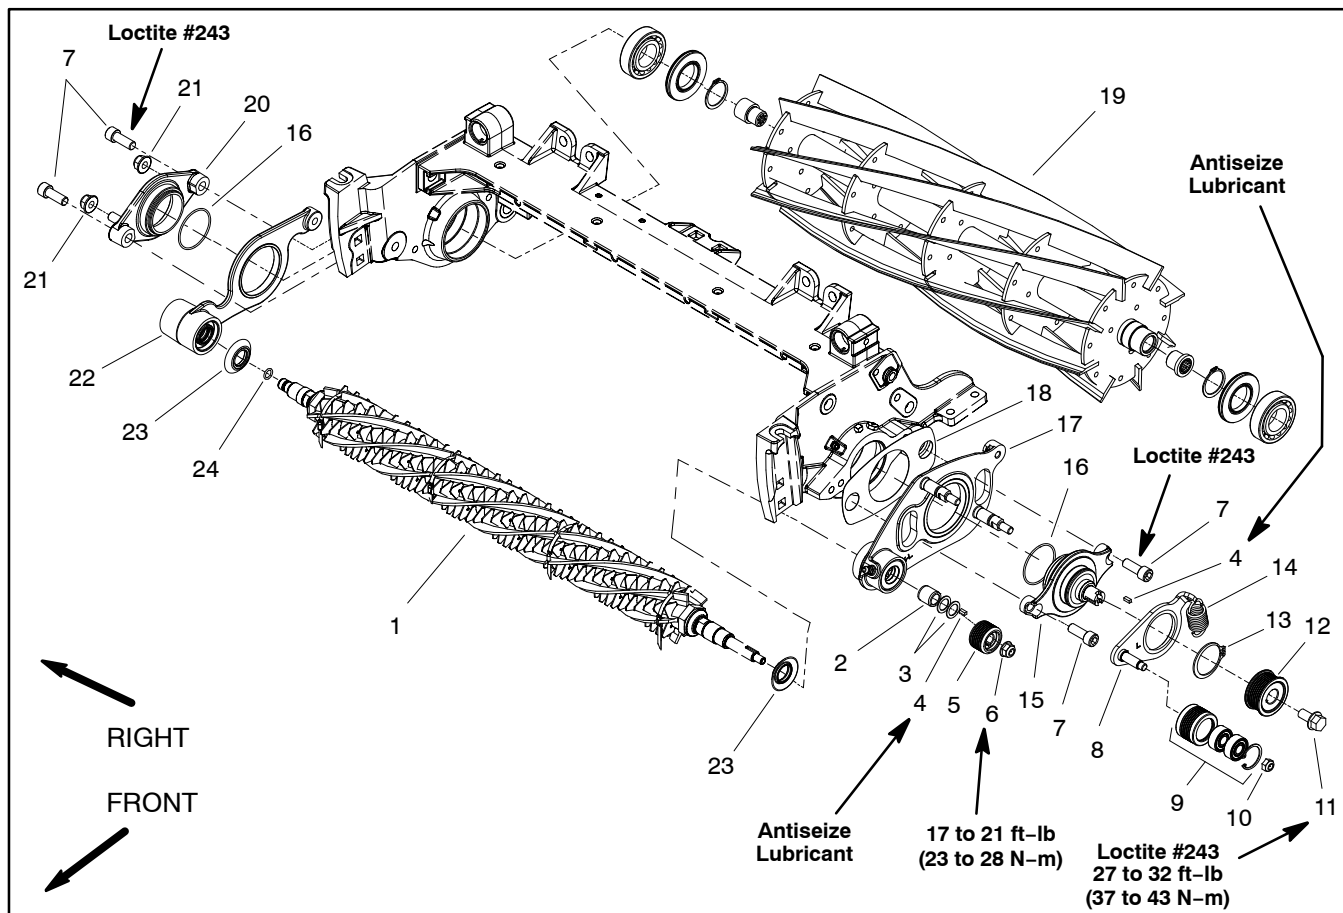

Figure 8
**NOTE:** The groomer reel drive is located on the opposite side of the cutting unit from the reel hydraulic motor. Figure 8 shows the groomer reel drive on the left side of the cutting unit.
### Removal (Fig. 8)
## Installation (Fig. 8)